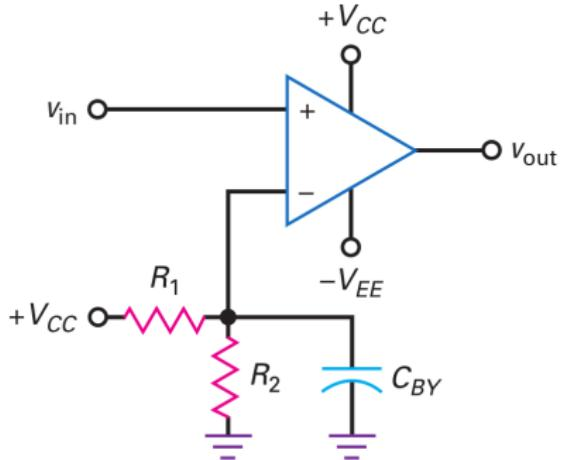

Figure 15: Positive threshold
- In Fig. 15, a voltage divider produces the following reference voltage for the inverting input:
- ▶ A bypass capacitor is typically used on the inverting input, as shown in Fig. 15.